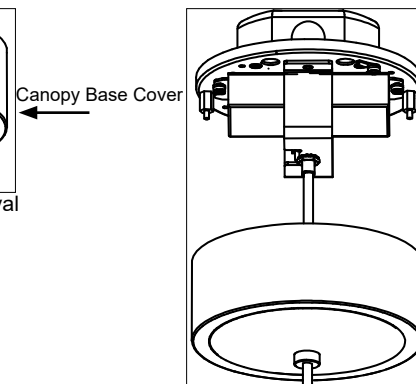

Figure 2: Base Mounting
4. Attach canopy base onto 4" octagonal wiring box using [2] (provided) Phillips head screws. [Figure 2]